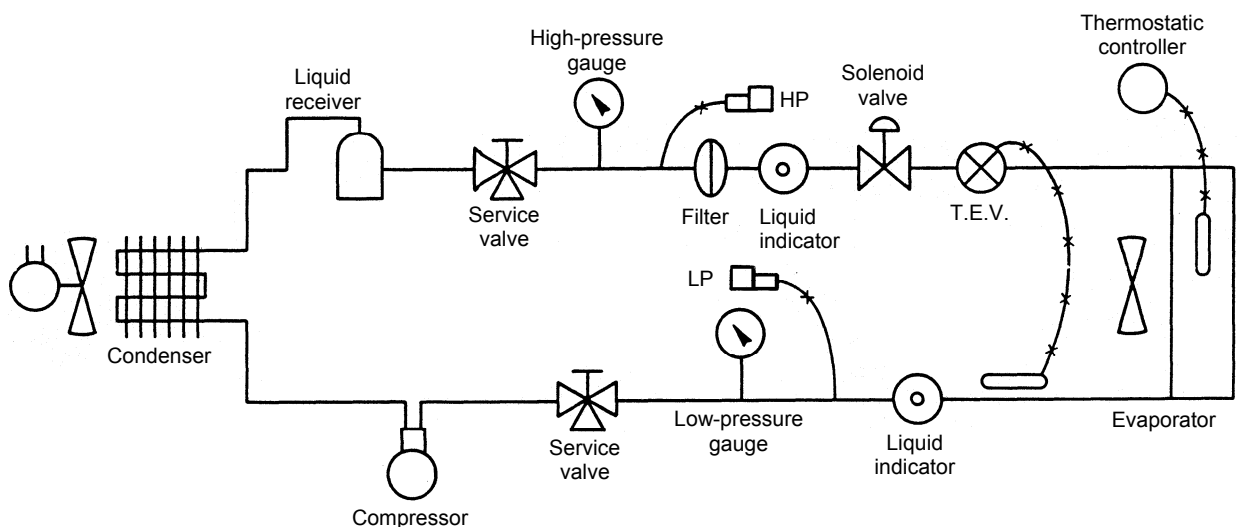

Figure 2-16. Refrigeration system with a dual pressure controller and a thermostat.
1. Modify the refrigeration circuit of the previous exercise to include a solenoid valve. Use the schematic of Figure 2-16.